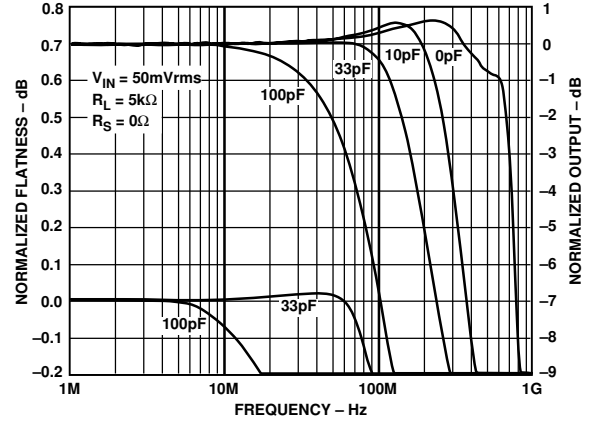

Figure 18. Frequency Response vs. Capacitive Load
- 4Decreasing RL slightly lowers the bandwidth. Increasing CL significantly lowers the bandwidth (see Figure 18).